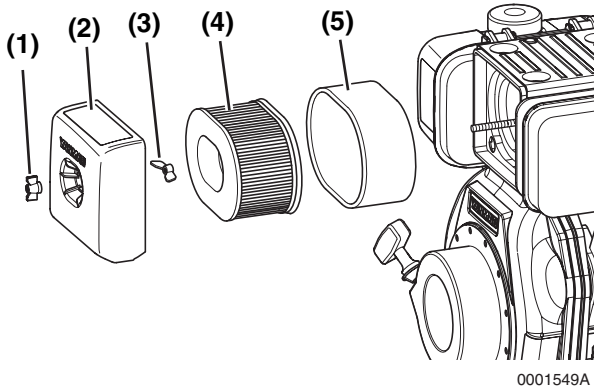

Figure 7
1. Remove the wing nut (**Figure 7, (1)**).
2. Remove the air cleaner cover (**Figure 7, (2)**).
3. Remove the wing nut (**Figure 7, (3)**).
4. Remove the air cleaner element (**Figure 7, (4)**) and outer foam element (**Figure 7, (5)**).
7. Clean the inside of the air cleaner cover (**Figure 7, (2)**).
8. Install the air cleaner element (**Figure 7, (4)**) into the air cleaner case.
9. Slide the outer foam element (**Figure 7, (5)**) over the air cleaner element (**Figure 7, (4)**).
10. Install the wing nut (**Figure 7, (3)**) and hand tighten. Overtightening the wing nut will damage the air cleaner assembly.
11. Install the air cleaner cover (**Figure 7, (2)**).
12. Install the wing nut (**Figure 7, (1)**) and hand tighten. Overtightening the wing nut will damage the air cleaner assembly.